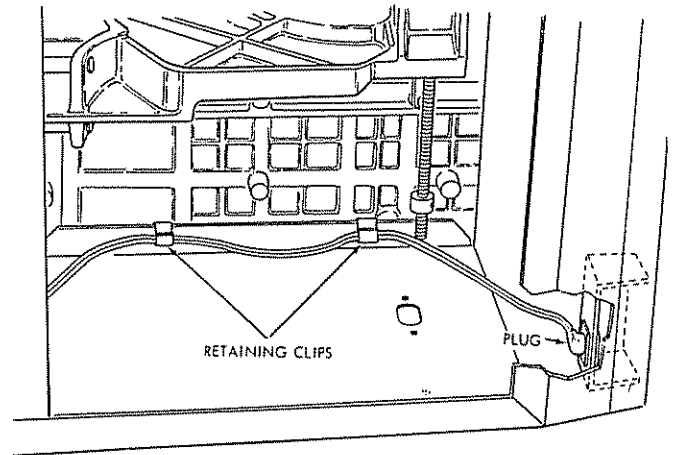

Figure 47
- b. Grasp the connector on end of motor power cord and, while looking into the base, insert the plug into the receptacle at rear of switch box. (See figure 47.)
- c. Position the power cord as shown in figure 47, and install two cord retaining clips on edge of saw base flange to secure the cord. Locate clips at approximate positions shown. Allow approximately 12 inches of cord between the motor and saw base.